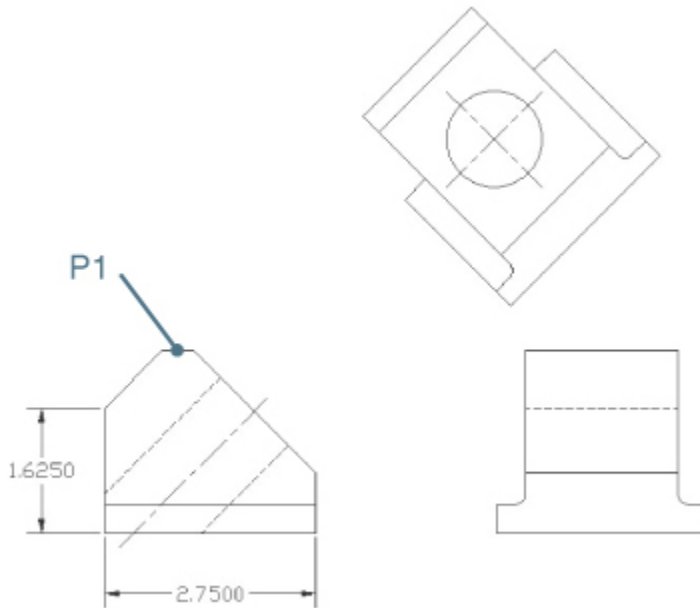

Figure 13-14
- 4 Pick the line at P1 shown in Figure 13-14. AutoCAD places the defpoints at the ends of the line and prompts you to *Specify dimension line location or =.*